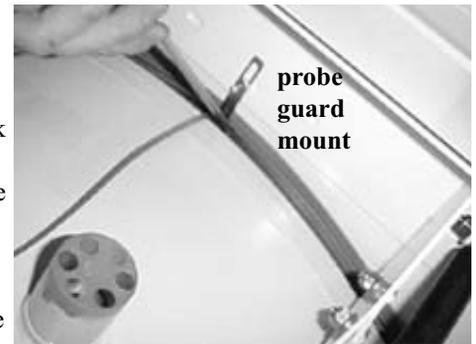
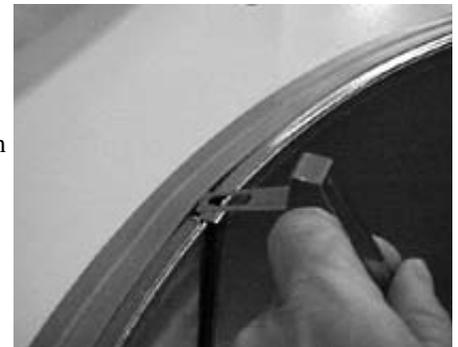

Figure 8
Figure 9
14. To begin the probe installation, open the tank lid. From the center back of the unit, route the probe between the vacuum tank and silicone tank seal at the notch in the rim of the tank (Figure 8).
15. Install the probe guard into the tank by routing the bent end of the guard through the notch in the tank rim (Figure 9). Secure the guard in place with a #8-32 KEPS nut provided in this kit. (See Figure 8.)